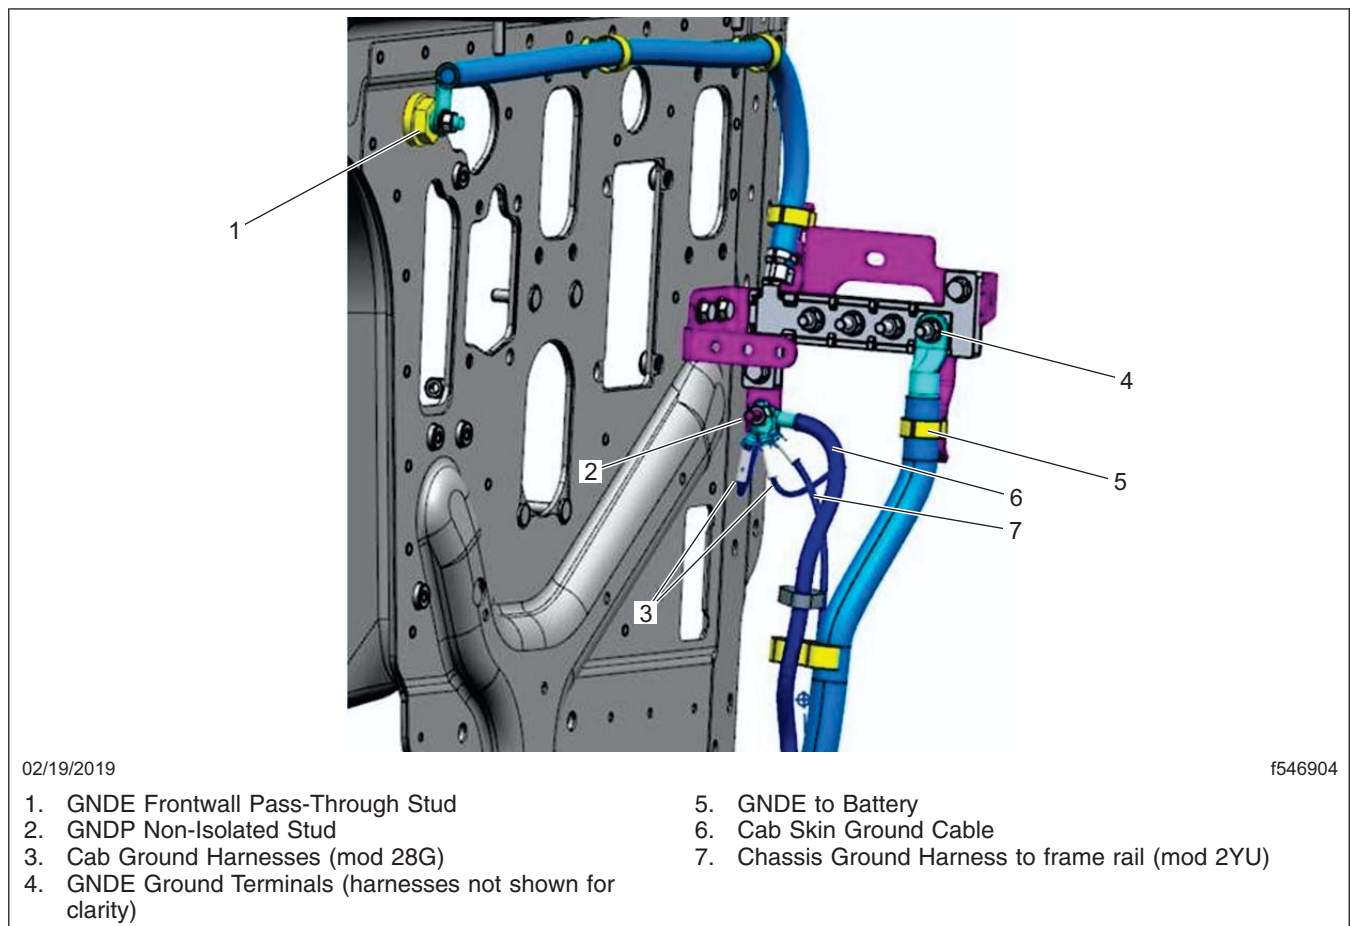

Fig. 3, MGJB and Frontwall Grounds
- Inspect the GNDP cab skin stud. See **Fig. 3** and **Fig. 4**. The left cab splash shield will need to be removed for this inspection. Verify that the GNDP skin stud on the underside of the cab is clean and torqued correctly. Do not over torque this stud. If the stud is stripped or spinning, in its mount, contact the district service manager for further instructions and include pictures. This skin stud is a critical grounding point for the cab. Disassemble and inspect the stud for overspray on the flat surfaces. Torque the stud 14 lbf-ft (19N-m). Repaint the connection as necessary.